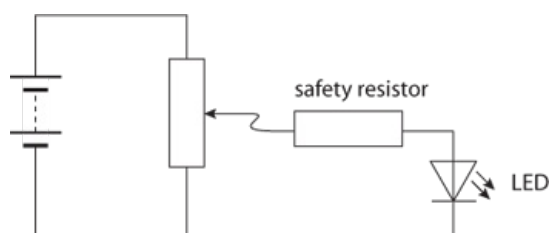

Figure 16.1: Circuit diagram.
- 1 Set up the circuit as shown in Figure 16.1. Start with a low potential difference across the LED and slowly increase the potential difference until the LED just begins to glow.